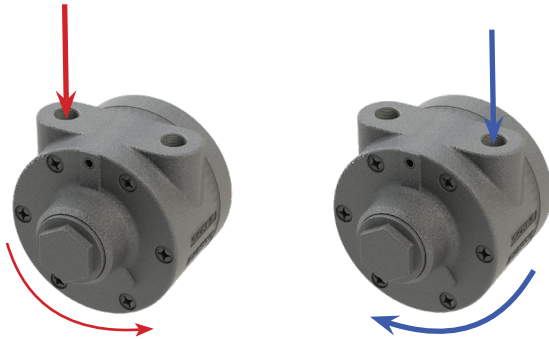

FIGURE 5: Note inlet versus rotation direction.
3. Connect air source and FRL to reel using appropriate size* air lines for your application. Refer to Figure 5 for air inlet versus rotation direction.